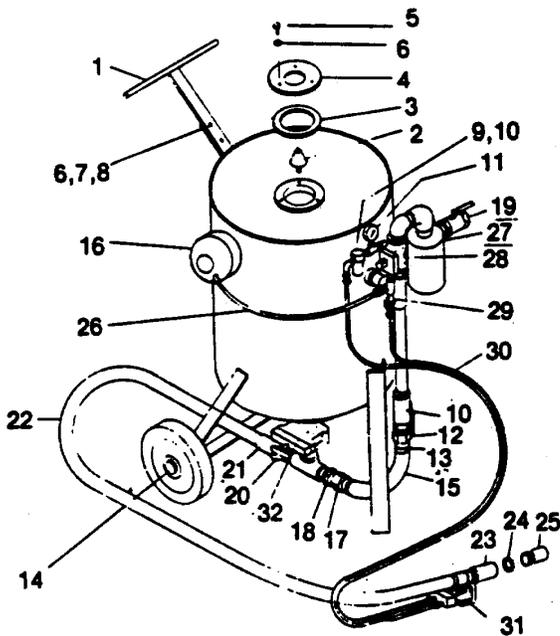

Figure 3
**PNEUMATIC SYSTEM (FIGURE 3-pg. 15)**
- B. Make sure ¼ petcock (29) is open.
8.0 **PROBLEM – UNABLE TO PRESSURIZE TANK (FIGURE 3 AND 3A-pg. 15)**